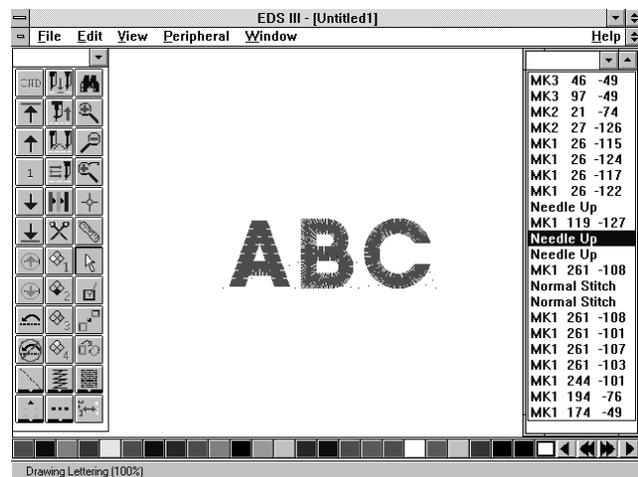

Figure 1-19
3. Move to the location in the stitch list where you wish to start the definition of the selected block. For this example, go to the first Needle Up stitch for the letter C (see Figure 1-19).